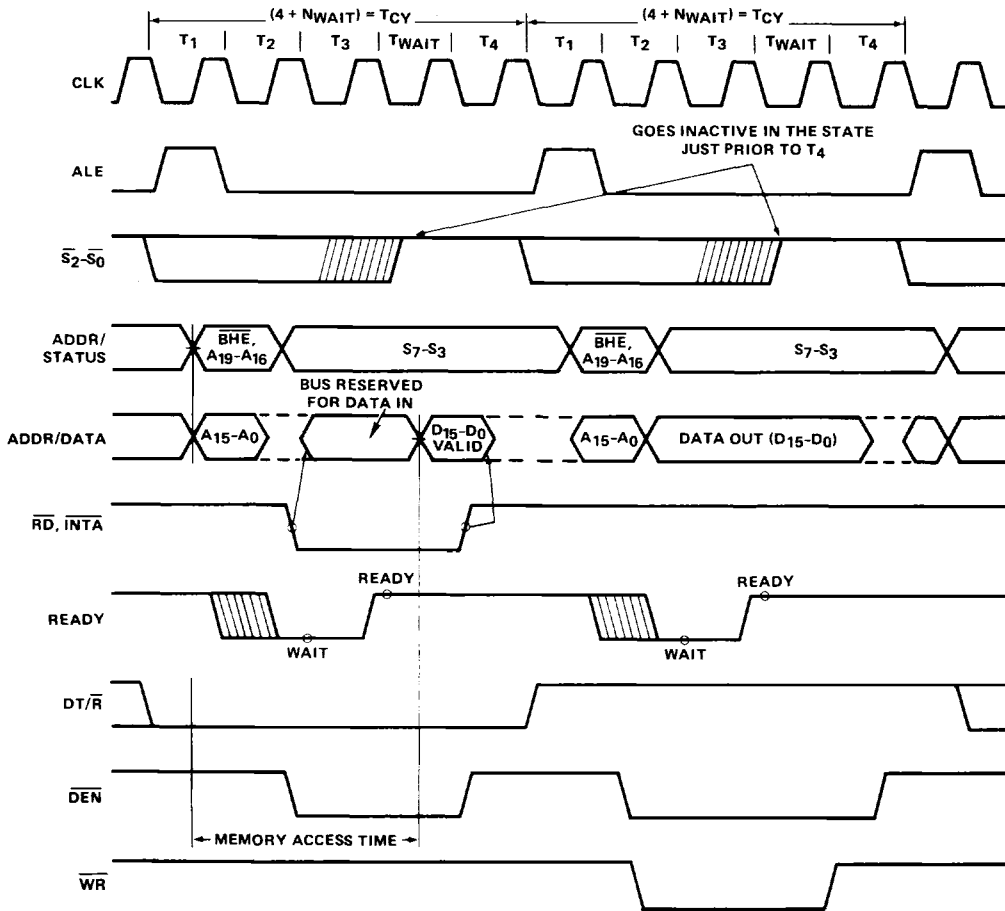

FIGURE 3. BASIC SYSTEM TIMING
Each processor bus cycle consists of at least four CLK cycles. These are referred to as T1, T2, T3 and T4 (see Figure 3). The address is emitted from the processor during T1 and data transfer occurs on the bus during T3 and T4. T2 is used primarily for changing the direction of the bus during read operations. In the event that a "NOT READY" indication is given by the addressed device, "Wait" states (TW) are inserted between T3 and T4. Each inserted wait state is the same duration as a CLK cycle. Periods can occur between 80C86 driven bus cycles. These are referred to as idle states (TI) or inactive CLK cycles. The processor uses these cycles for internal housekeeping and processing.
Typical system configurations for the processor operating in minimum mode and in maximum mode are shown in Figures 6A and 6B, respectively. In minimum mode, the MN/MX pin is strapped to VCC and the processor emits bus control signals (e.g. RD, WR, etc.) directly. In maximum mode, the MN/MX pin is strapped to GND and the processor emits coded status information which the 82C88 bus controller uses to generate MULTIBUS™ compatible bus control signals. Figure 3 shows the signal timing relationships.